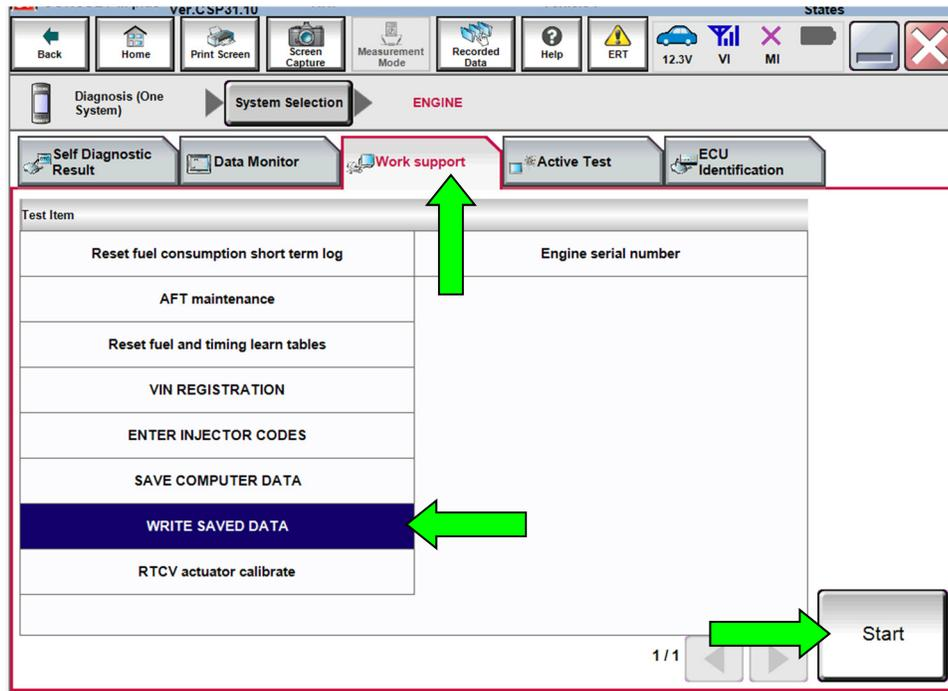

Figure 8
19. Navigate C-III plus to **ENGINE > Work support** (see Figure 8).